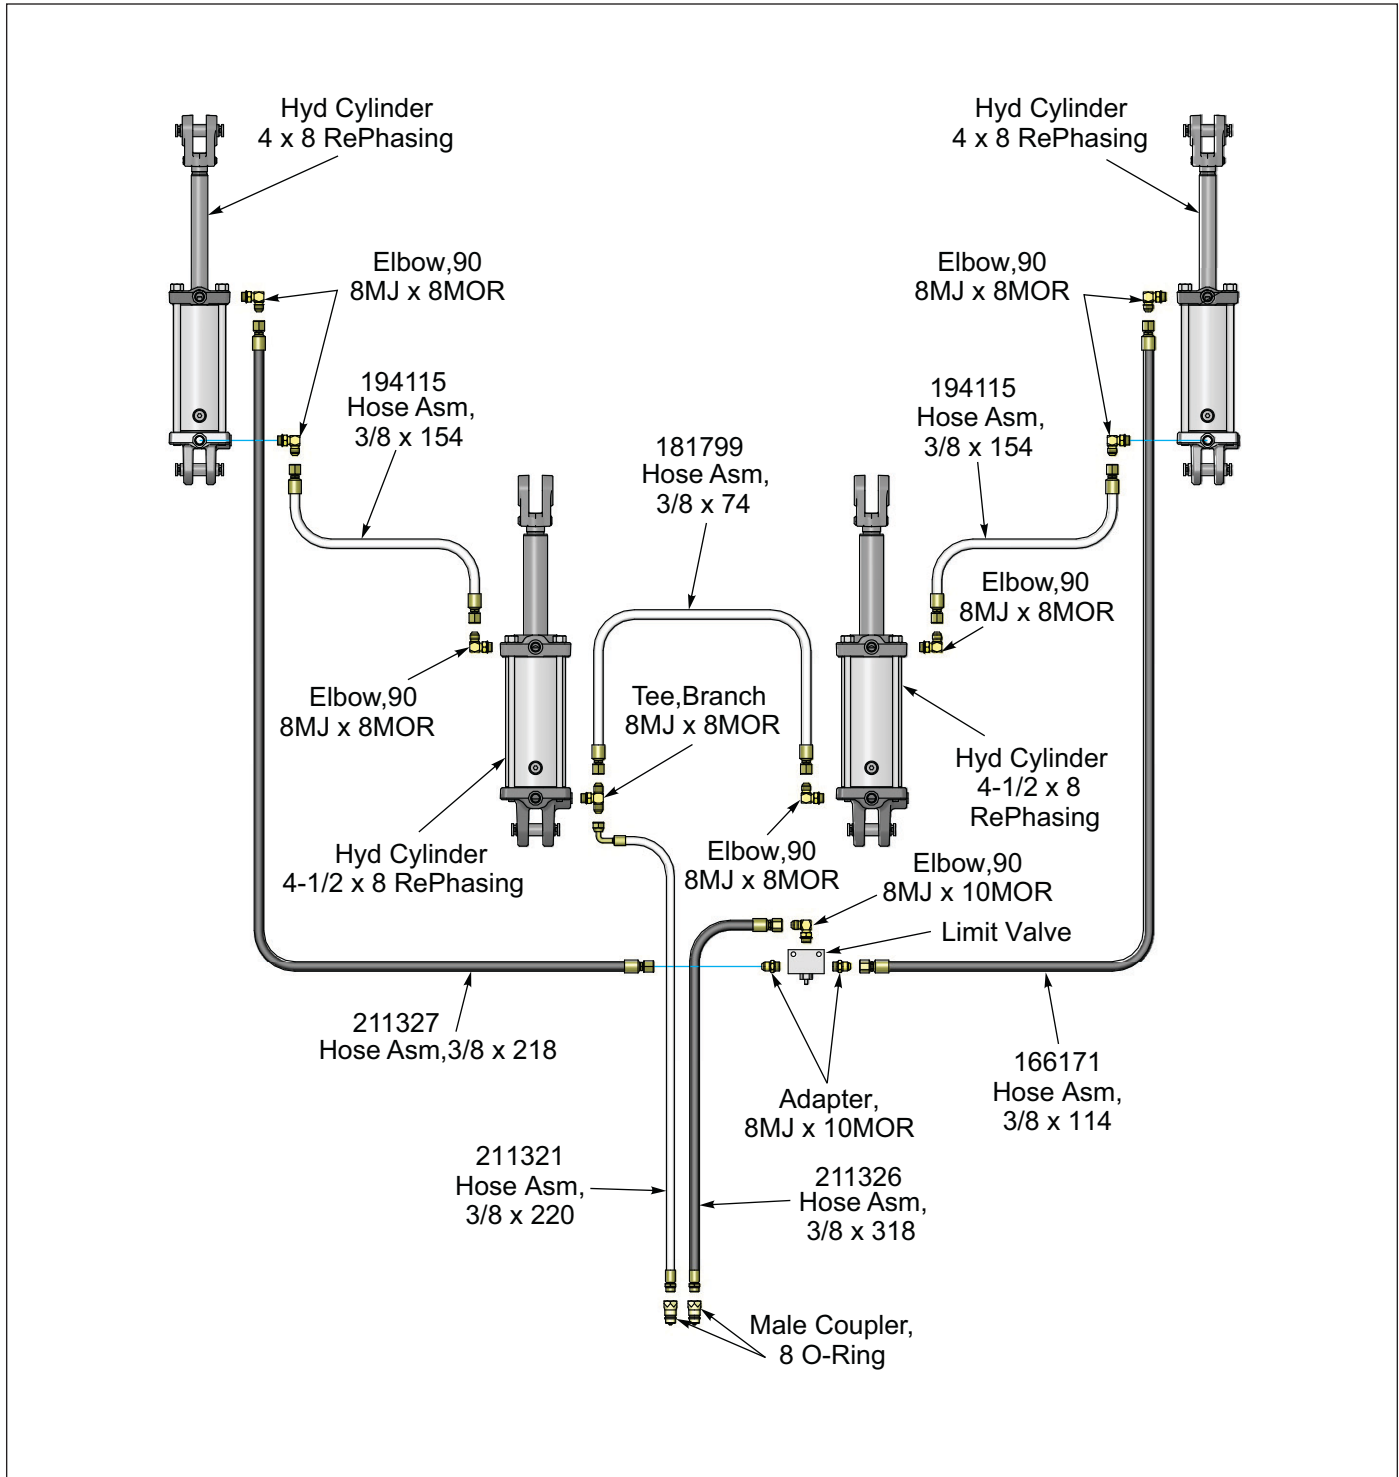

Figure 2-16: Simplified Hydraulic Tooth Control Schematic
1. Tooth Control Circuit - Black - See Figures 2-16, 2-17 and 2-18. The Tooth Control Circuit with shanks raised requires approximately 2.3 gallons of hydraulic oil, and with shanks lowered requires 2.6 gallons of hydraulic oil.
1. Install Limit Valve fittings. **See Figures 2-16 and 2-18.**
3. Install fittings and hoses for Tooth Control Hydraulic Cylinders. **See Figures 2-16, 2-17 and 2-18.** On each side, wrap both hoses near the hinge pin area with 26 inch hose wrap. Wing hoses can be set aside until time of wing assembly.